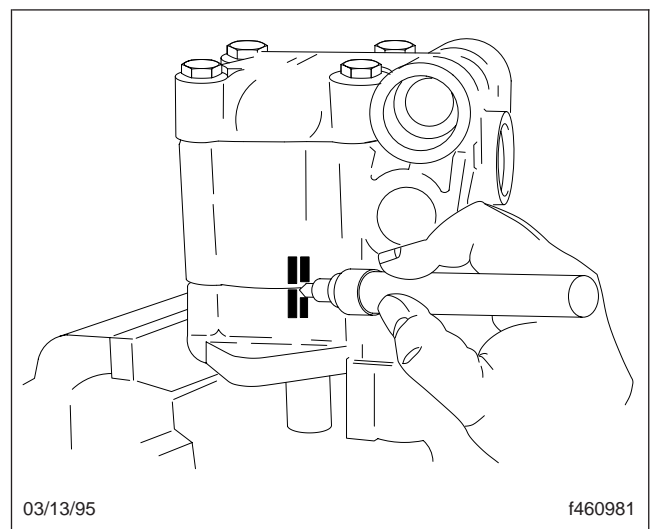
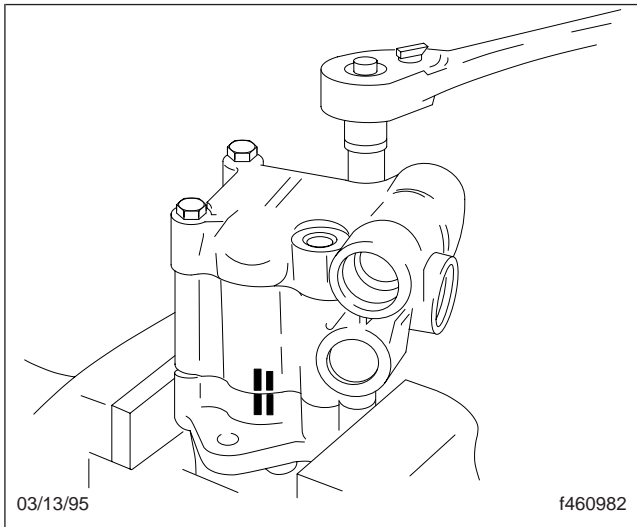

Fig. 5, Marking the Housing and the Cover
Fig. 6, Removing the Screws and Washers
5. Using a solvent-proof marker, make a mark across the housing and the cover. See Fig. 5. Remove the four screws and washers that hold the housing and the cover together. See Fig. 6. Using a twisting motion, separate the housing from the cover.